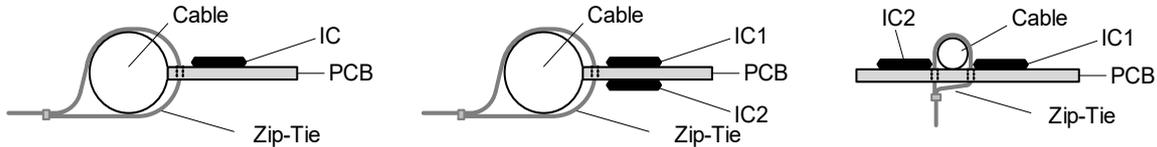

Figure 30. Sensor PCB Fixtures for Single-, Stacked-, and Opposite Sensor Topologies Cables
- Fix the current sensor PCB to the cable using zip-ties (Figure 30). Ensure the sensors are placed as close as possible to the cable.